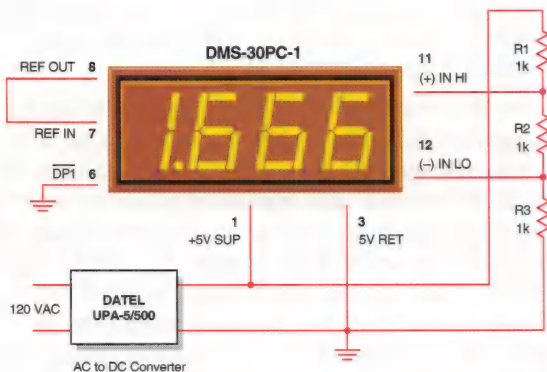

Figure 3. Differential Input Configuration
- 2. Differential Input Configurations:** Differential measurements can be made with all DMS-30PC meters. Figure 3, though not a practical real-world application, uses a voltage divider to demonstrate the concept of a differential input signal. Be careful not to exceed the  $\pm 2V$  common mode voltage limitation for 5V-powered meters.